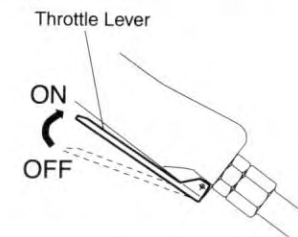

Fig.2
4-1. Start and Stop (Fig.2)
(1) To disassemble Needle Guide Ass'y, pull up the Clamp Lever and remove the Clamp Spring from the hook on the Guide. Take out the Needle Guide from the tool body. (Fig.2)